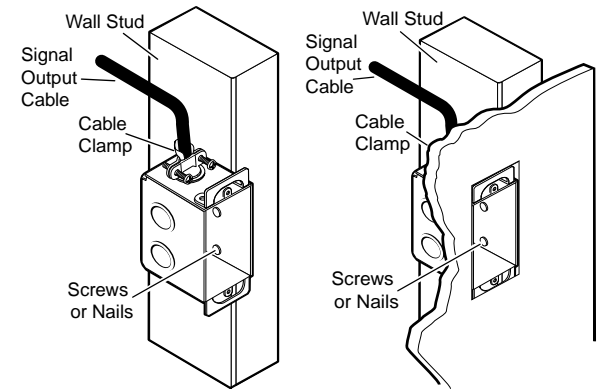

Figure 2-10 — Installing the wall box
5. Secure the wall box with nails or screws, leaving the front edge flush with the outer wall or furniture surface. See figure 2-10.